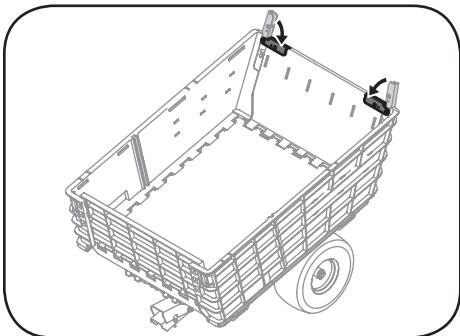

Figure 3-8
11. When the tailgate is in position, secure it in place by snapping the tailgate latches onto the tailgate. See Figure 3-8.